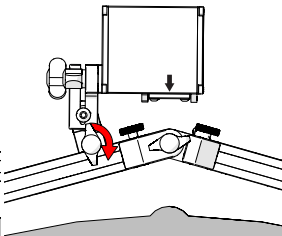

Fig. 29 - Tighten bar clamp knob when alignment is achieved
5. When the Tracker is aligned with the centre of the weld, tighten the black wing knob (Fig. 29).